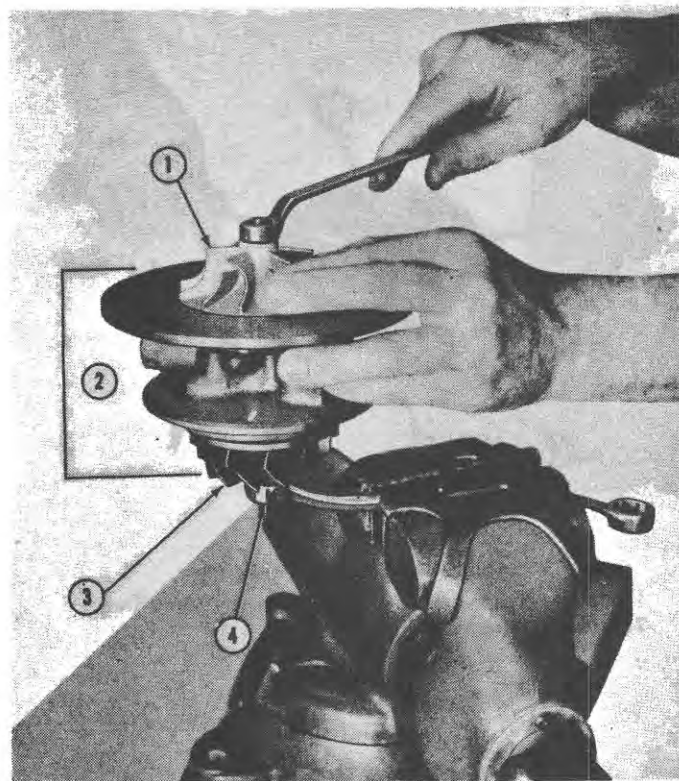

Figure 5
3. Remove the nut from the clamp band screw. Remove the clamp band and the core assembly, Figure 5, from the turbine housing.
4. Clamp a 5/8 inch twelve-point box end wrench in a vise as shown in Figure 5. Place the hub of the turbine wheel in the wrench socket.